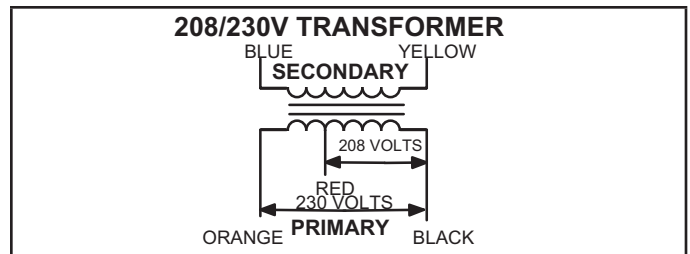

FIGURE 3
T43 is a single line voltage to 24VAC and ties into T1. See unit diagram. T43 is mounted in the control box. The transformer supplies power to control circuits (through T1). The transformer is rated at 70VA and is protected by a 3.5 amp circuit breaker (CB31). The 208/230 (Y) voltage transformers use primary voltage taps as shown in figure 3, while 460 (G) and 575 (J) voltage transformers use a single primary voltage tap.
All use a single line voltage to 24VAC transformer mounted in the control box. Transformer supplies power to control circuits in the unit. The transformer is rated at 92VA and is protected by a 6 amp circuit breaker (CB8). The 208/230 (Y) voltage transformers use primary voltage taps as shown in FIGURE 3, while 460 (G) and 575 (J) voltage transformers use a single primary voltage tap.